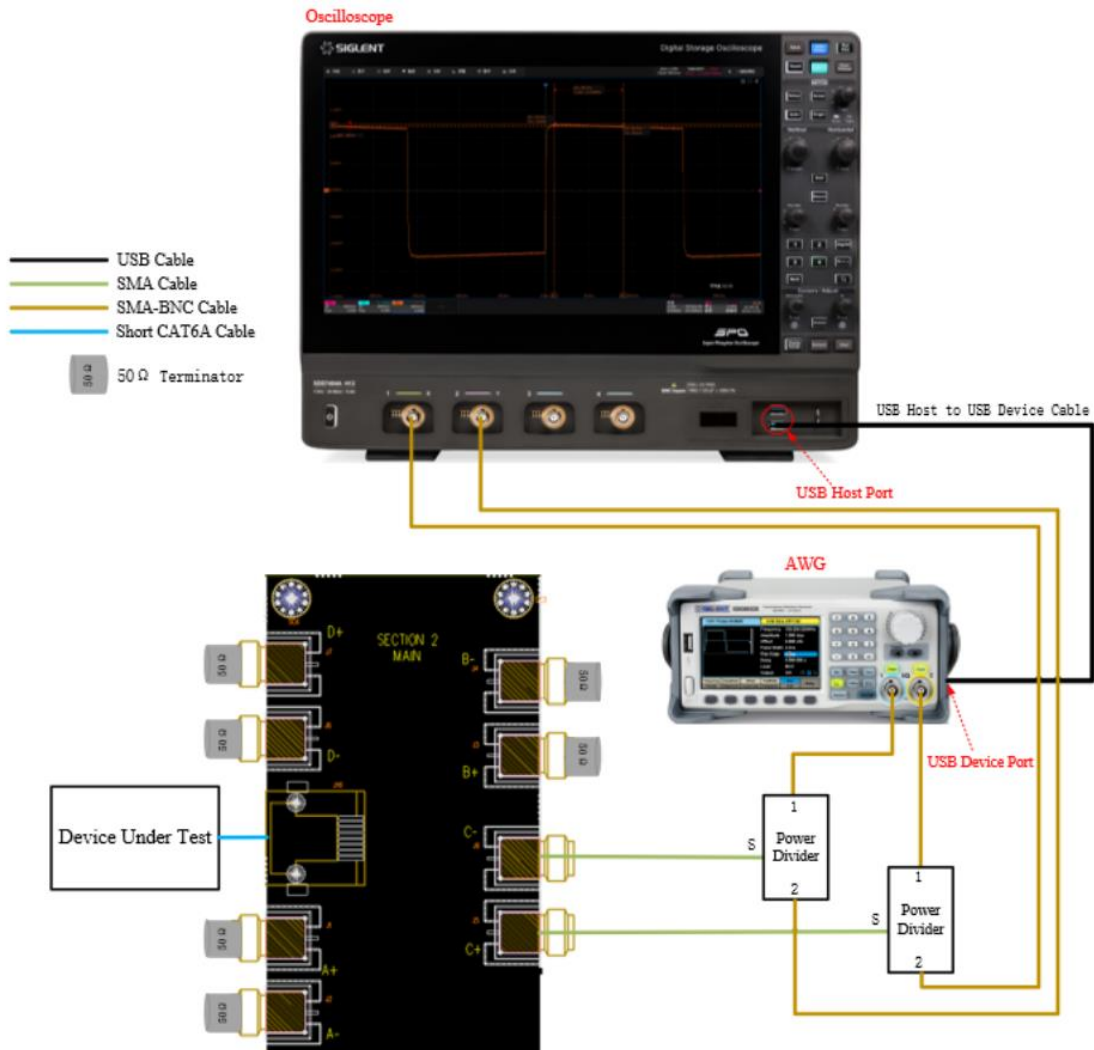

Figure 5–6 Transmitter Nonlinear Distortion Test Using an Oscilloscope
- Spectrum Analyzer Testing: The Connect method is shown in Figure 5–7. The steps are:
- 1) Connect one end of a short Ethernet cable to connector J16 in area ② of the test fixture and the other end to the DUT.